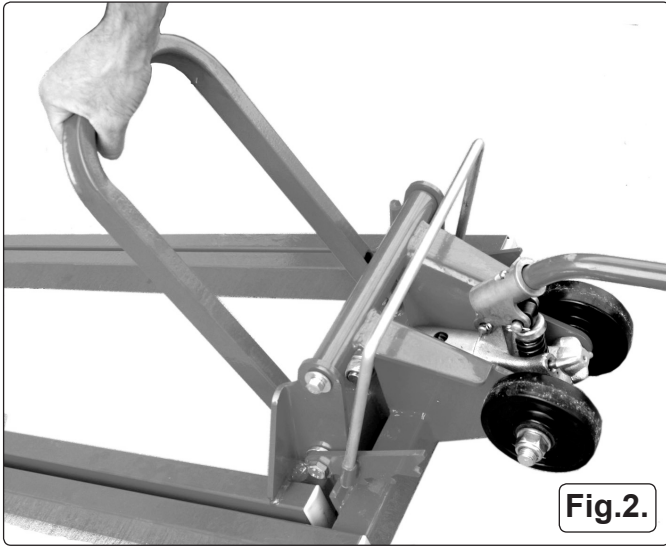

Fig.2.
- 3.2.2. Pull out the supporting frame from the stand (fig.2).